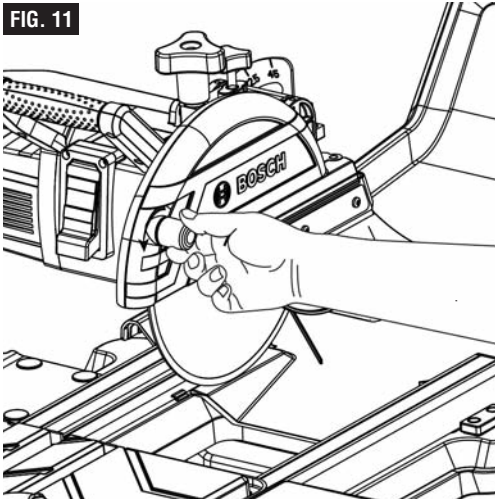

FIG. 11
1. Loosen the blade guard lock knob (Fig. 11).